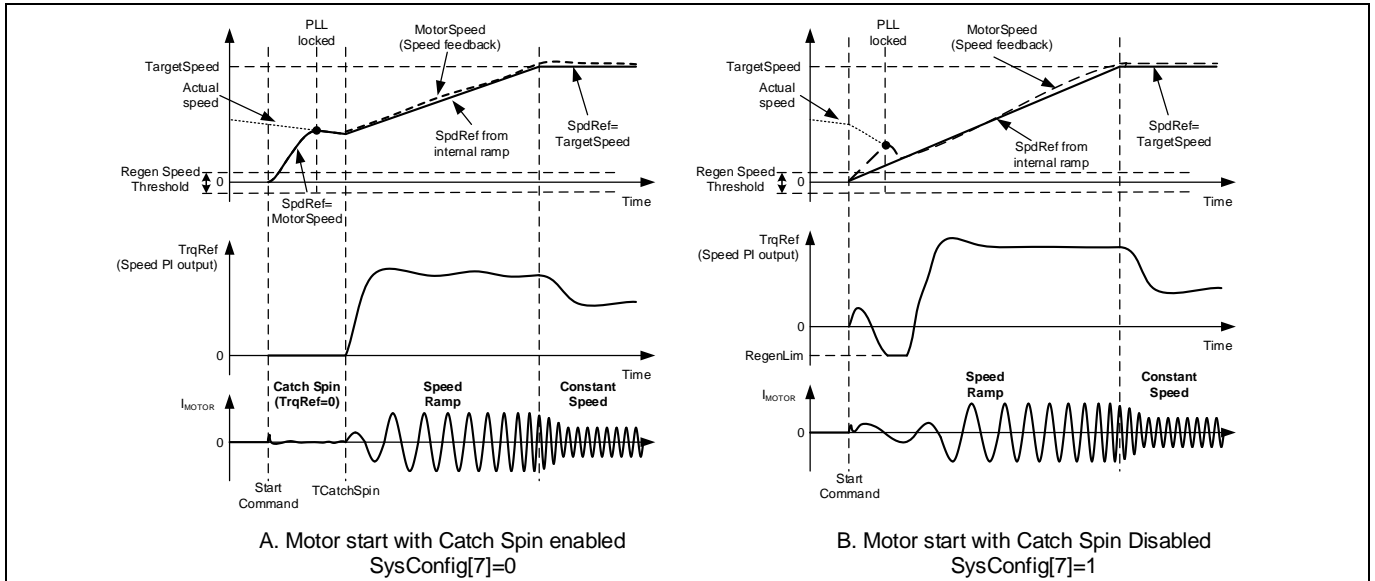

Figure 16 Forward Catch Spin - Motor start with/without catch spin
If the motor is spinning in the same direction as desired, then the catch spin sequence is termed as 'Forward Catch Spin'. Figure 16 (A) shows an example for 'Forward Catch Spin'. In this example, at the start command the motor is already spinning (in the desired direction). During the catch spin time, no motoring current is injected. After the catch spin time has elapsed, assuming the flux PLL locks to the actual motor speed, the motor speed at that instance becomes initial speed reference and starting point for speed ramp reference. The motor continues to accelerate or decelerate, following the speed ramp reference to reach the set target speed.
If catch spin is disabled, normal speed control starts immediately after the start command, without waiting for PLL to be locked. Usually the control would still be able to start a spinning motor, but motor speed may not increase/decrease seamlessly. As shown in Figure 16 (B), after the start command, the actual motor speed is higher than speed reference (SpdRef). Hence, the motor is decelerated (using regenerative braking) to force the motor to follow the speed reference (SpdRef). As the speed of the motor is higher than Regen Speed Threshold (RegSpdThr), the negative torque injected in the motor to achieve deceleration is limited by the value in